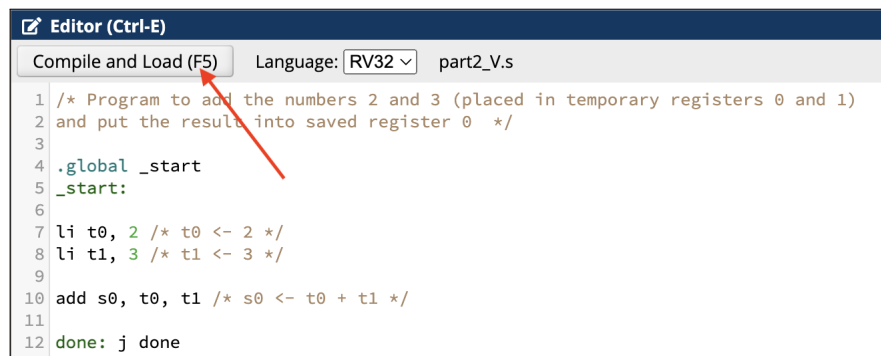
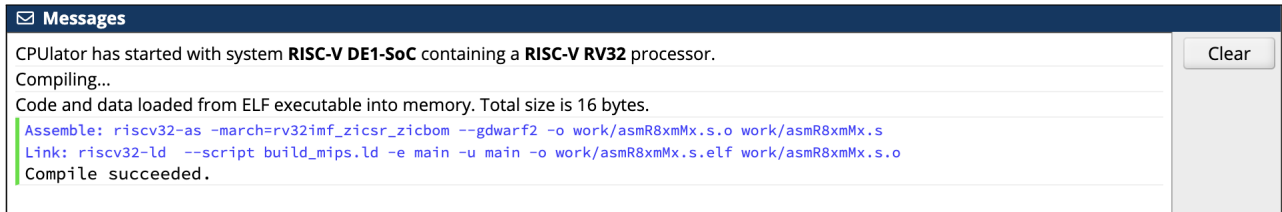

Figure 4: Compiling and loading the program.
Figure 5: The Messages pane.
- Click on the `Compile and Load` button, as shown in Figure 4, to *assemble* your program (into the numerical codes that the processor actually executes, also known as the *machine* or *object* code) and *load* it into the *memory* of the simulated computer system. You should see the message displayed in Figure 5, in the Messages pane, which reports a successful compilation result. If not, then you may have accidentally introduced an error in the program code; fix any such errors and recompile.